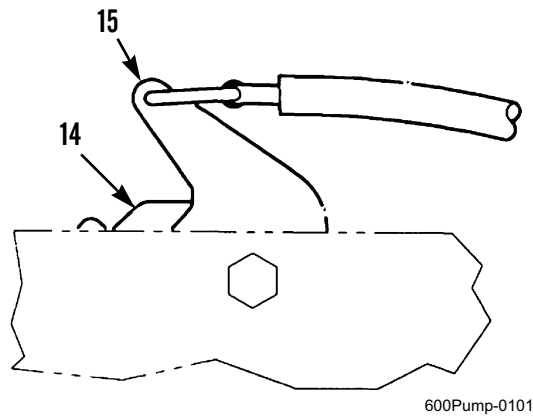

Figure 10. Breakaway Lever and Leaf Spring.
23. Disengage breakaway lever (Figure 10, Item 15) from leaf spring (Figure 10, Item 14) at hydraulic brake actuator.